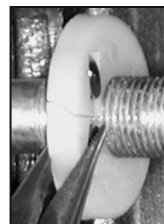

Fig. 8
Step 6. Secure the BrakeSentry indicator to the pushrod by inserting needle-nose pliers into the two holes provided at either side of the split parting. Squeeze together and insert the retaining clip through the slits. (**Fig. 7**) With clip fully inserted, bend the tabs toward each other and into the recessed area of the indicator. (**Fig. 8**)